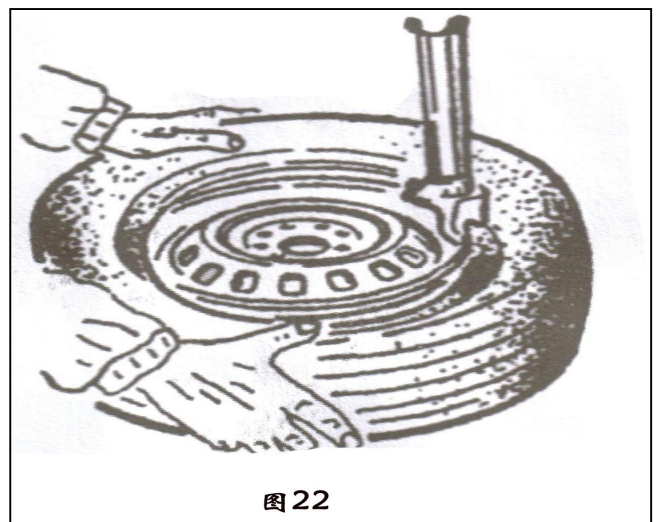

图 22
4.2.3 If there is tube, place it in the tire and plug the core. And assemble the lip according to the above mentioned step (FIG22).